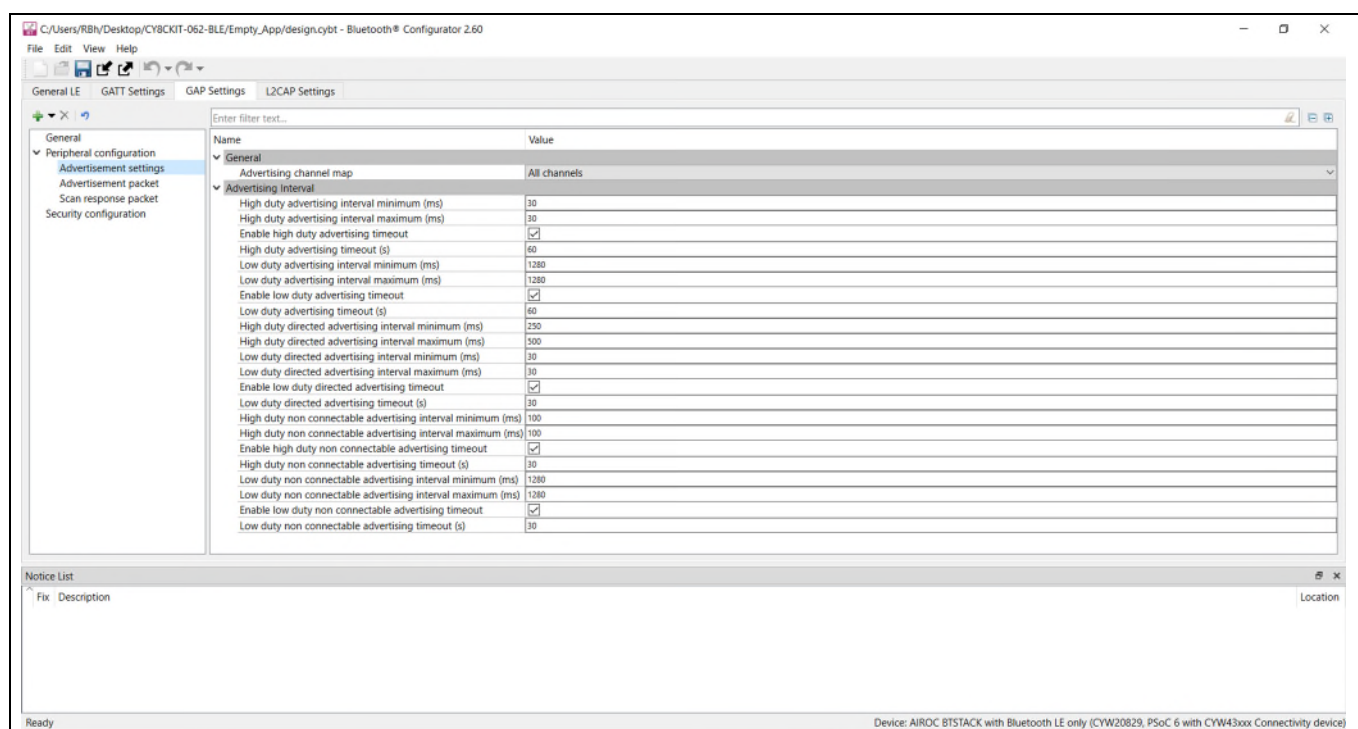

Figure 24 GAP advertisement settings
- Click the **Advertisement settings** item in the left menu. Default values work for this application (see Figure 24). It uses a high-duty advertising interval of 30 ms and a low-duty advertising interval of 1280 ms. High-duty advertising allows quick discovery and connection but consumes more power due to increased RF advertisement packets.